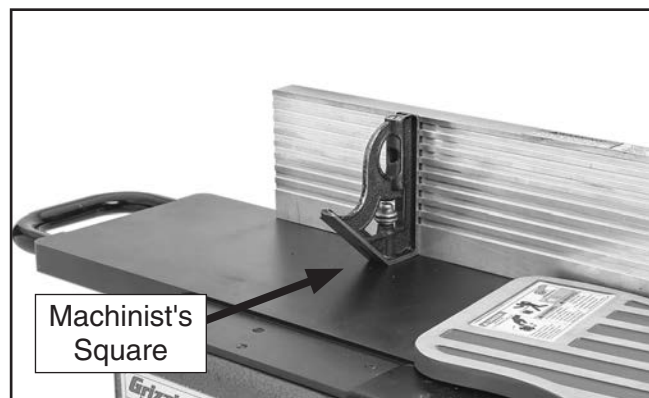

Figure 26. Checking the 90° stop.
3. Use a 90° square to adjust fence to 90° (see **Figure 26**), then tighten fence tilt lock.